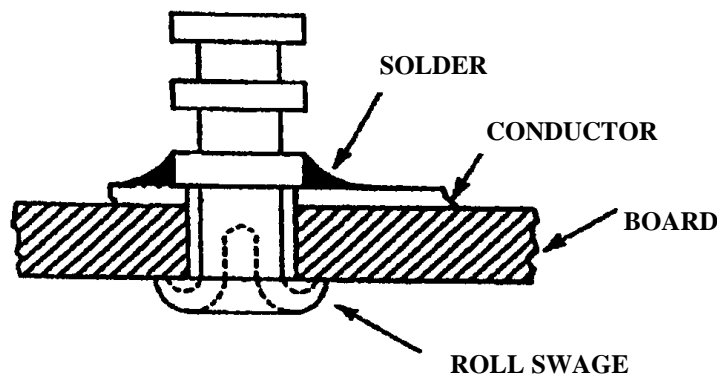

Figure 8-2. Roll Flange Terminal
2. Swage type terminals in non-PTH's, designed to have the terminal shoulder soldered to the printed wiring conductor, shall be secured to the PWB by a roll swage (Figure 8-2).